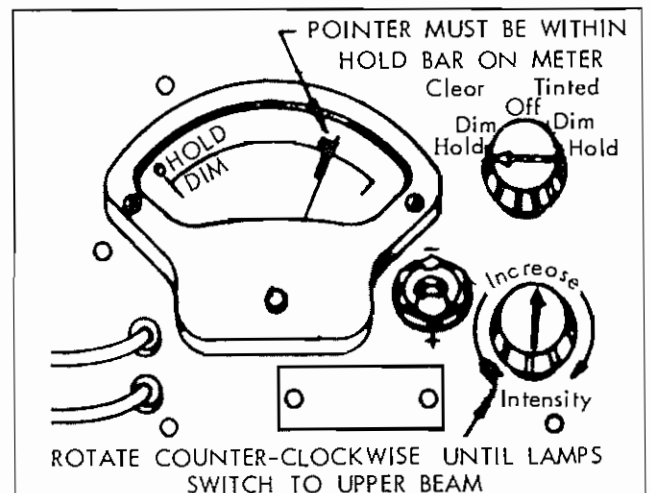

Figure 63
3. Turn tester Intensity Rheostat clockwise slowly just to point where headlamps switch to lower beam. The meter pointer should now be in the Black Dim Sensitivity Adjustment Line, see figures 63 and 64. If not, proceed to Step 4.